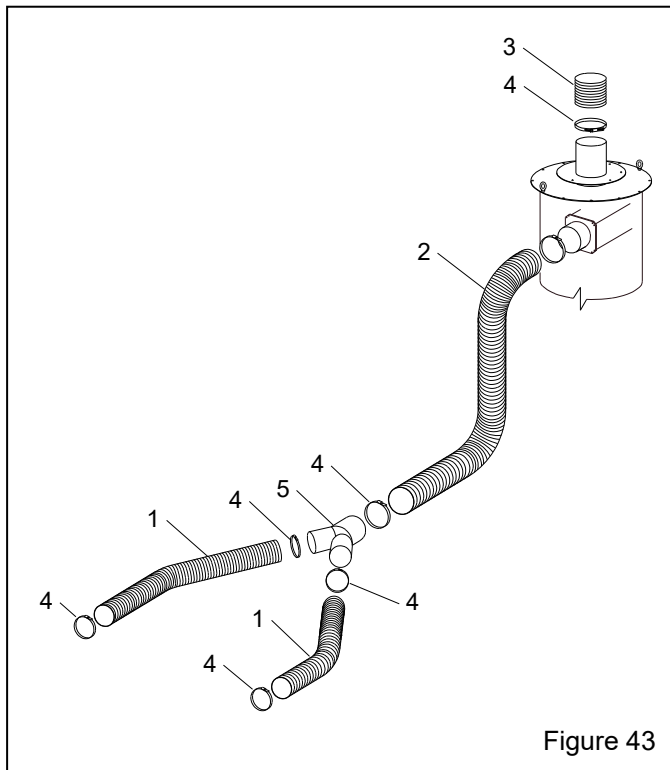

Figure 43
9.13 Flex Hose and Wye Adaptor – Figure 43